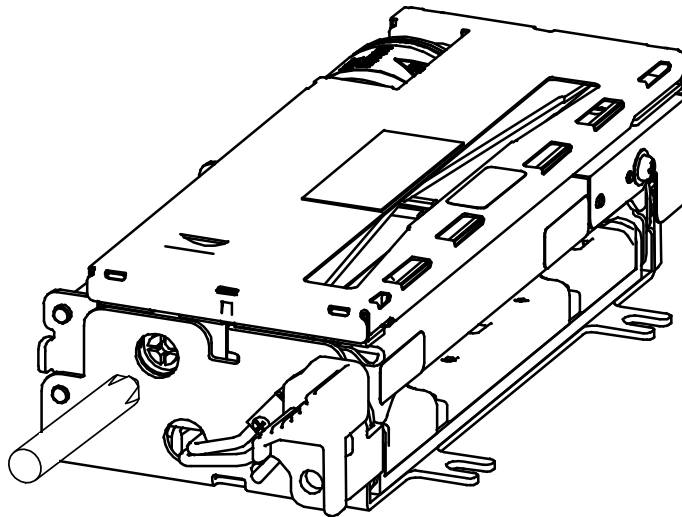

Figure 8-5 Release Procedures When Cutter Motor (Movable Blade) is Locked
- 4) If the movable blade does not return to the home position, stop the power supply to the cutter motor immediately. Insert the Phillips screwdriver into the gutter at the leading end of the motor shaft on the side of the printer and rotate it to move the movable blade from the paper feed space to the home position and remove external cause. (See Figure 8-5)